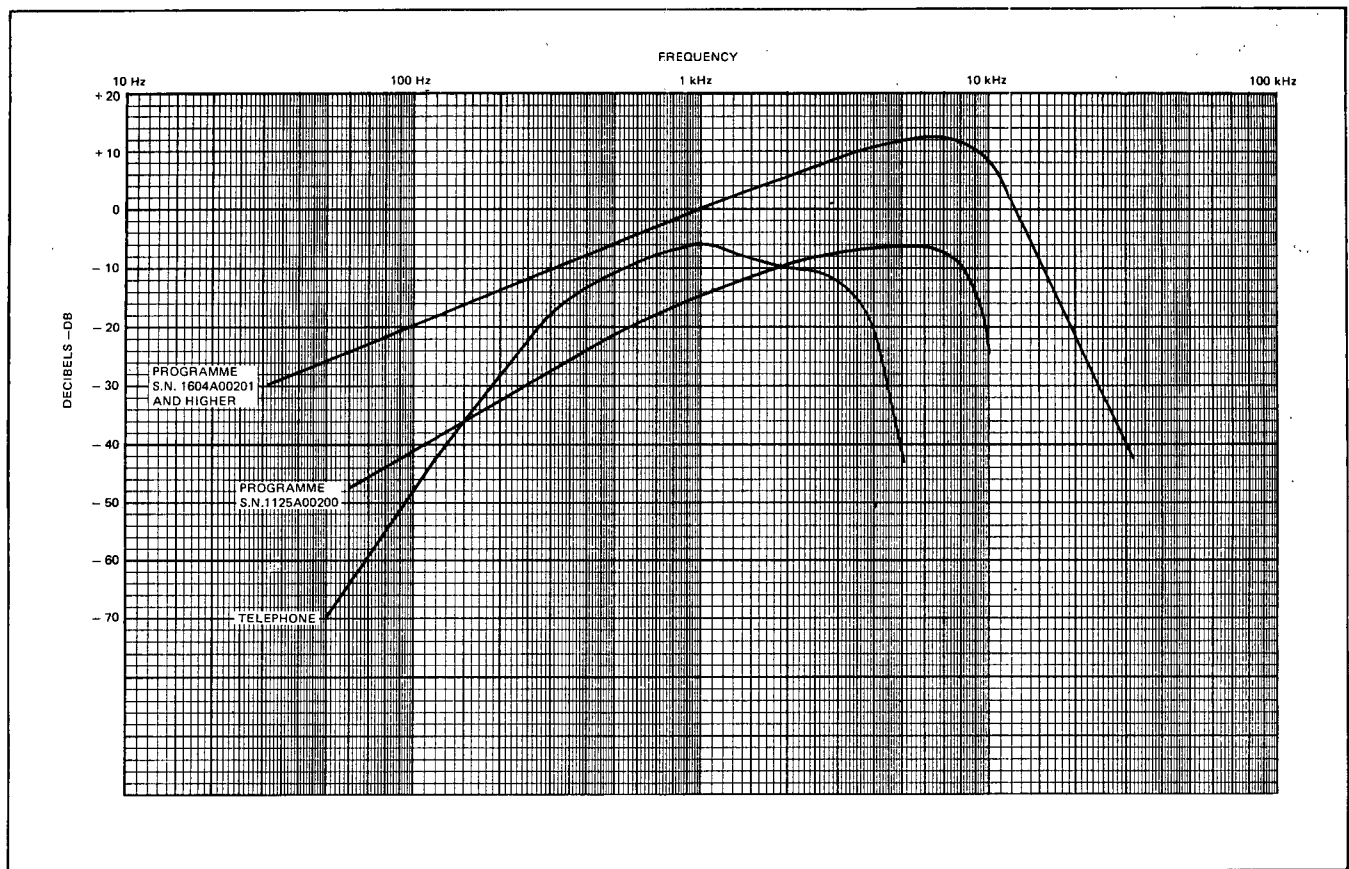

Figure 3-1. Telephone and Programme Weighting Curves.
3-30. **Telephone (CCITT Psophometric).** The Telephone (CCITT Psophometric) filter has a frequency response which simulates the effects of noise on the human ear. This weighting is also used to evaluate the effects of noise on voice-grade data circuits. The frequency response of this filter is shown in Figure 3-1.
**3-33. Programme.** The Programme filter is used for weighted measurements of noise on radio and television studio transmitter and studio-remote audio links. The frequency response of this filter is shown in Figure 3-1.